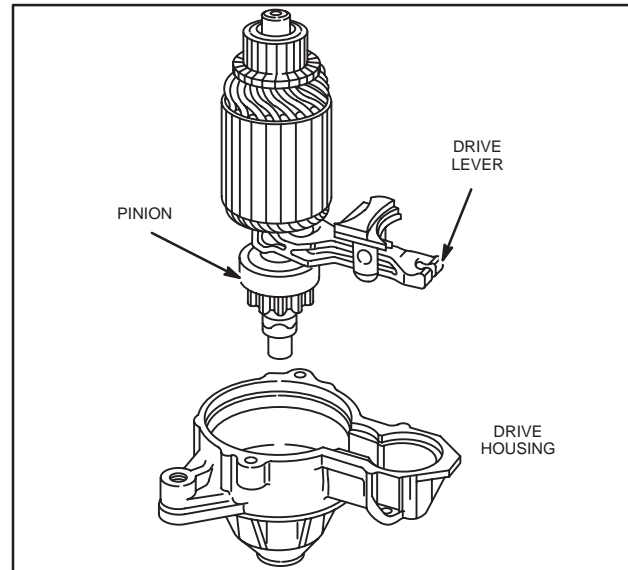

Fig. 71 – Installing Armature
1. Assemble drive lever to pinion and install armature and drive lever into drive housing, Fig. 71.